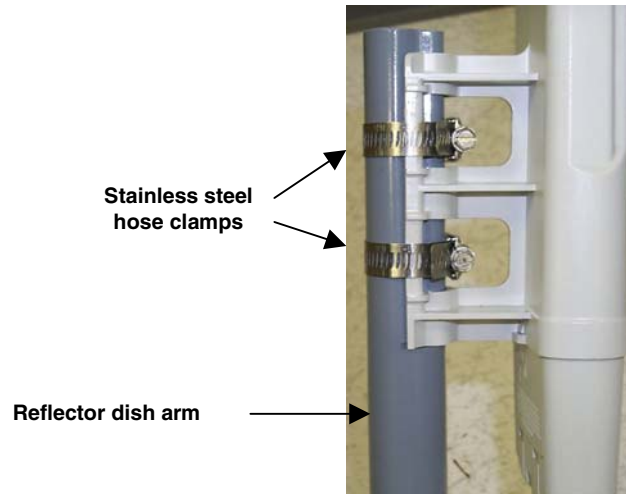

Figure 127: SM attachment to reflector arm
5. Optionally, attach the SM to the arm of the Cyclone Passive Reflector dish assembly as shown in Figure 127.